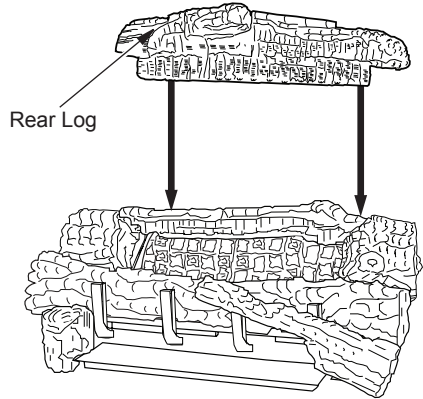

Figure 45 - Installing Rear Log
9. Rest the rear log (18" D-069, 24" & 30" D-043) on the chassis behind the rear burner as shown in Figure 45. The bottom of the rear log will sit into the rear log supports.